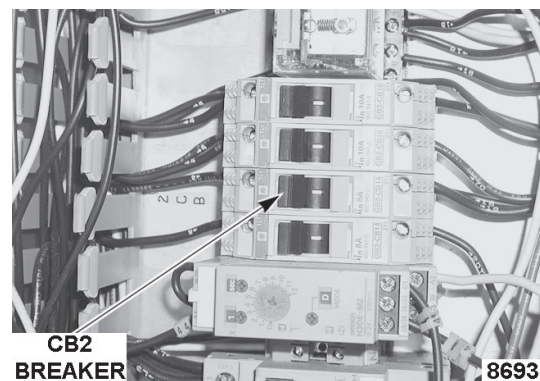

Fig. 13
- B. De-energize draft inducer (stack fan) by switching off CB2 breaker (Fig. 13).
- H. Energize draft inducer (stack fan) by switching on CB2 breaker (Fig. 13).